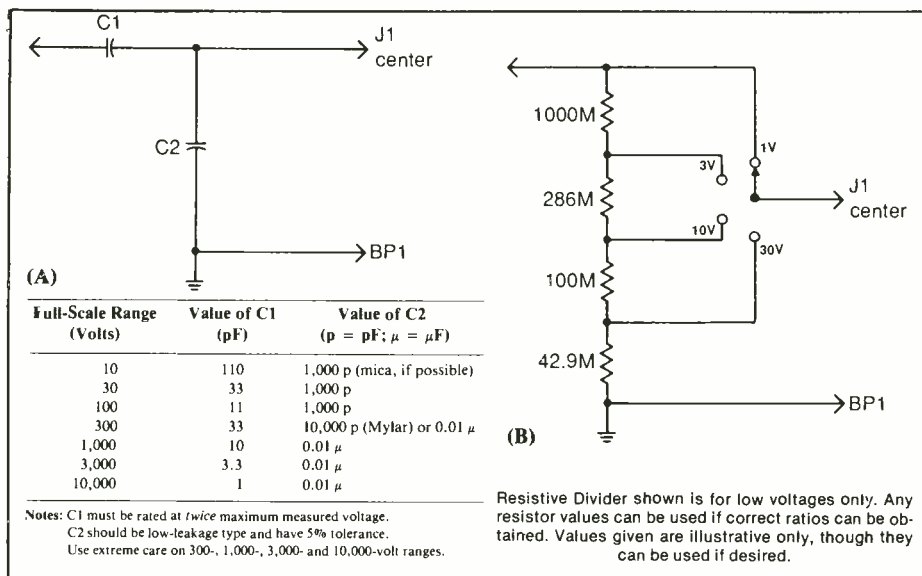

Fig. 7. Examples of external capacitive (A) and resistive (B) voltage dividers that can extend the project's measuring range.
used with this project are shown in Fig. 7. The capacitive divider illustrated in (A) has the advantage of drawing no steady dc current from the circuit under test. However, with the input resistance to the project at *J1* being finite, the dc voltage across *C2* in Fig. 7(A) will gradually drop even if input voltage to *C1* is kept constant. Therefore, you must make sure that *C1* and *C2* are discharged before reading the voltage and immediately take the reading after connecting *C1* to the unknown voltage source.